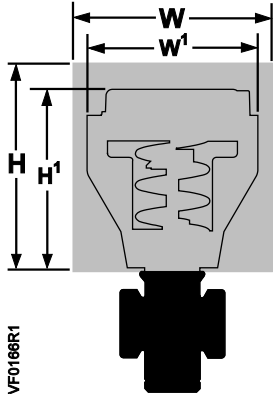

Figure 6.
- Allow sufficient space for servicing the valve and actuator. See Table 12 for valve body dimensions. See Figure 6 and Table 11 for dimensions of the service envelope recommended around the actuator.
The letters in Figure 6 refer to actuator and service envelope dimensions in Table 11. See Table 12 for valve body dimensions.